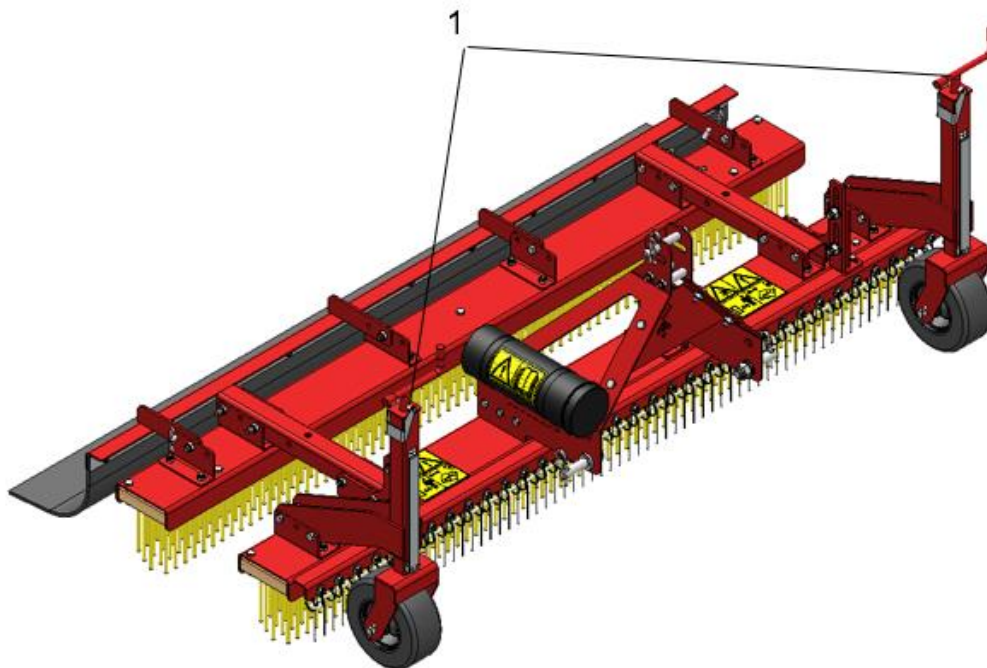

Figure 3
3. Loosen the top rod (3) and remove it.
4. Loosen the lowest arms (2).
The working depth can be adjusted by setting the running wheels. The front side of the machine will become higher or lower by turning the spindles (1) (see Figure 3).